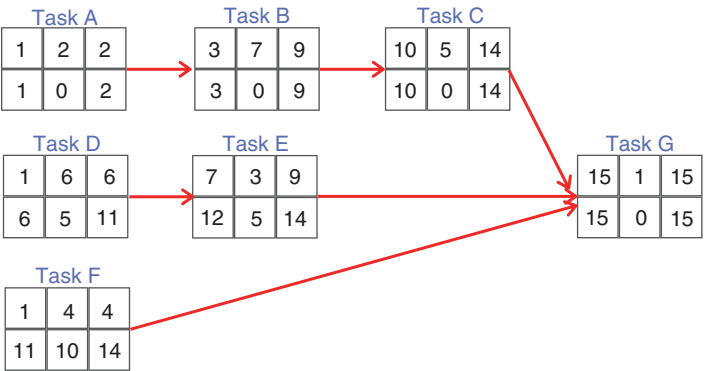

Figure 5.8 CPM example backward pass.
The Backward Pass, as shown in Figure 5.8, starts at the end of the project and calculates each task's late start, late finish, and float. Late Start (LS) is the latest date a task can start without delaying the rest of the project. Late Finish (LF) is the latest date a task can finish without delaying the rest of the project. The LF often equals the EF; however, there are times when the LF may be an external constraint. Examples may be, needing to complete the road improvement before the start of the college football season to support the increased traffic flow, needing to complete the improvement to enable a scheduled special event, or needing to complete the improvement before election day. Float is the delta between LS and ES.
In our example, the EF of Task G is the end of Day 15. This is also the latest Task G can finish, so the LF of Task G is the end of Day 15, as shown in Figure 5.8. The LS is the $LF - D$, which is End of Day 15 minus one workday, so LS is the start of Day 15. Float is then calculated by subtracting ES from LS. For Task G, $F = 0$ days since $ES = LS$.